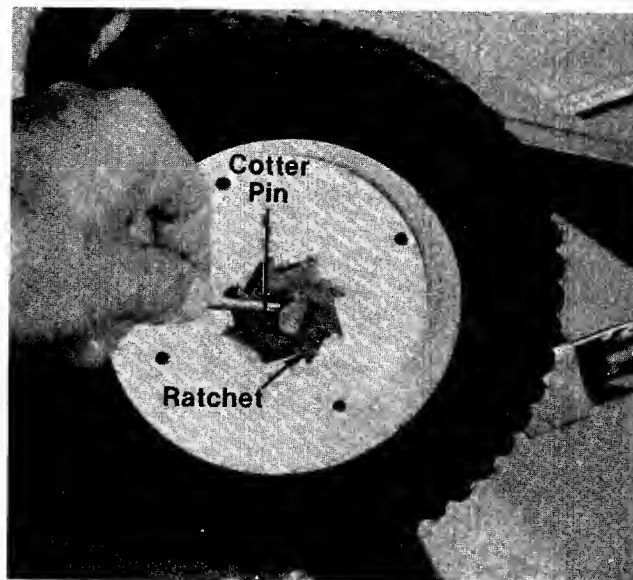

FIGURE 28.
9. Remove the cotter pin on the RIGHT WHEEL ONLY and remove the ratchet. See figure 28.
Mark the outside of the ratchet so it is not assembled backwards or refer to figure 28 for reassembly.